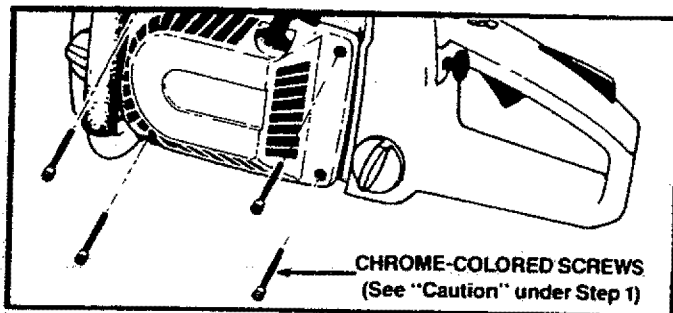

Figure 37
1. Remove the four screws on the side of the fan housing. Figure 37.